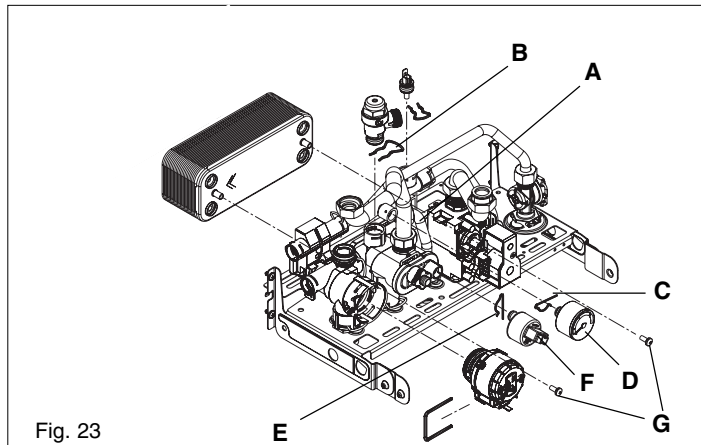

Fig. 23
6.6 SAFETY VALVE (fig. 23)
6.8 WATER PRESSURE SENSOR AND GAUGE (fig. 23)
6.19 DHW HEAT EXCHANGER (fig. 23)